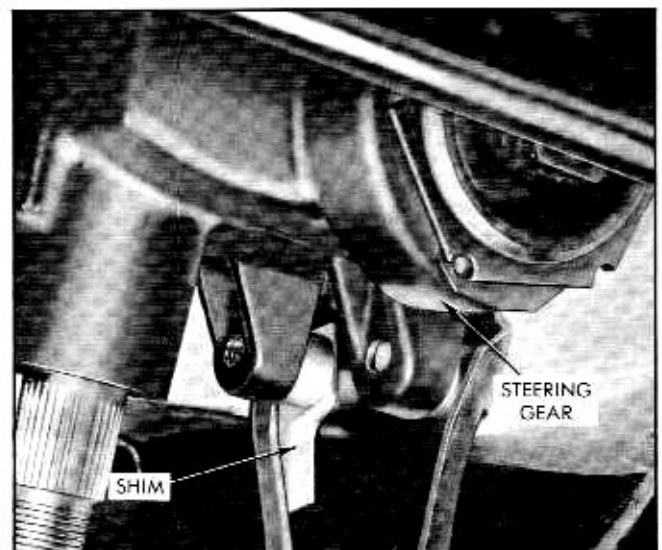

Fig. 9-16 Steering Gear Housing Shim
3. Loosen steering column bracket to make certain column is not sprung due to misalignment. If misaligned, shim at steering gear housing to frame bolts and tighten bracket (Fig. 9-16).
to 70-90 lb. ft. Use shims as necessary to align shaft with steering column jacket (Fig. 9-16).